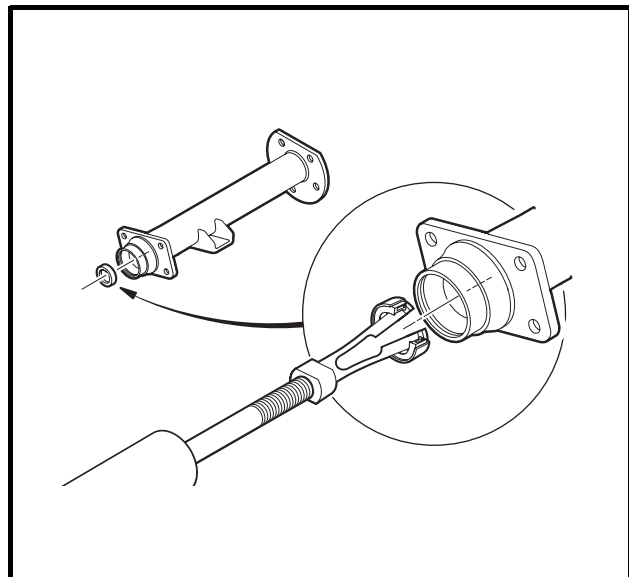

Figure 16-2 Axle Seal and Adapter Ring Removal
- 6.1. Use a bearing puller (CCI P/N 1016417) to remove the axle seal and adapter ring from the axle tube (**Figure 16-2, Page 16-2**). **See following CAUTION and NOTE.**